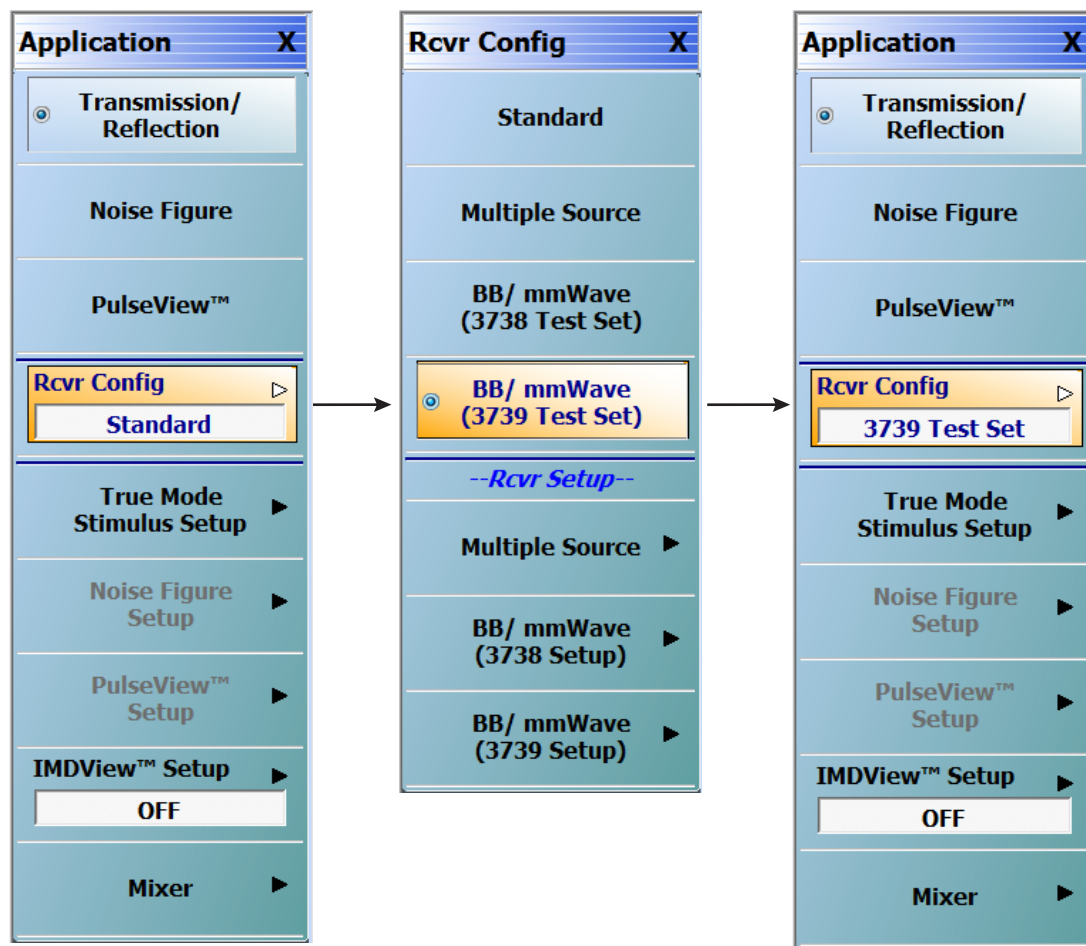

Figure 4-9. APPLICATION Menu – Receiver Configuration to 3739 Test Set (MS464xB Systems)
3. At the MAIN menu, select Application. The APPLICATION menu appears as shown in Figure 4-9 on page 4-10.